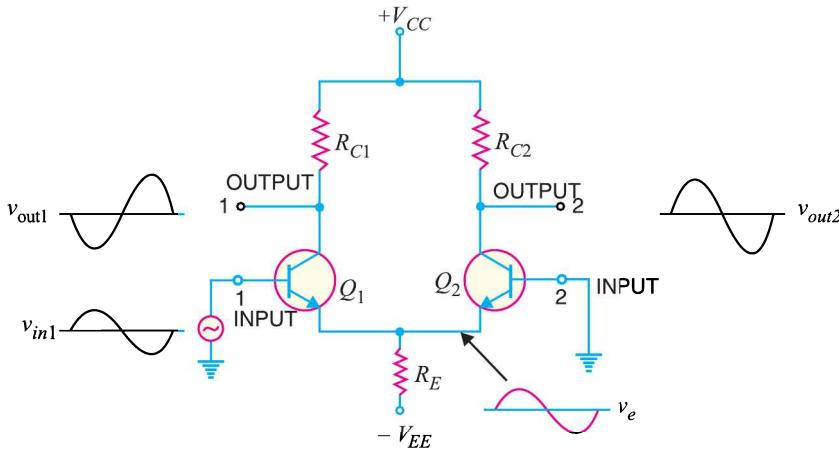

Fig. 25.5
- (i) Suppose the signal is applied to input 1 (*i.e.*, base of transistor Q_1) and input 2 (*i.e.*, base of transistor Q_2) is grounded as shown in Fig. 25.5. The transistor Q_1 will act in two ways : as a common emitter amplifier and as a common collector amplifier. As a common emitter amplifier, the input signal to Q_1 (input 1) will appear at output 1 (*i.e.*, collector of Q_1) as amplified inverted signal as shown in Fig. 25.5. As a common collector amplifier, the signal appears on the emitter of Q_1 in phase with the input and only slightly smaller. Since the emitters of Q_1 and Q_2 are common, the
emitter signal becomes input to Q_2 . Therefore, Q_2 functions as a *common base amplifier. As a result, the signal on the emitter of Q_2 will be amplified and appears on output 2 (i.e., collector of Q_2) in phase with the emitter signal and hence in phase with the input signal (signal at input 1). This is illustrated in Fig. 25.5.
- (a) When signal is applied to input 1 (i.e., base of transistor Q_1 in Fig. 25.5), an inverted, amplified signal appears at output 1 and non-inverted, amplified signal appears at output 2. Reverse happens when signal is applied to input 2 and input 1 is grounded.